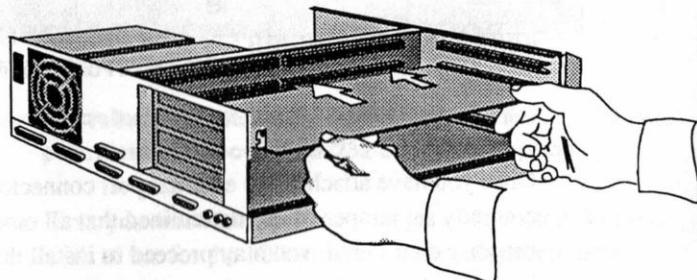

Figure 2.8 – Installing IOExtender
3. Align the IOExtender board with the plastic slot guide at the front of the expansion slot. Take care that the board's external connectors extend through the correct expansion slot opening in the Amiga's rear panel (see either Figure 2.8 or 2.9).